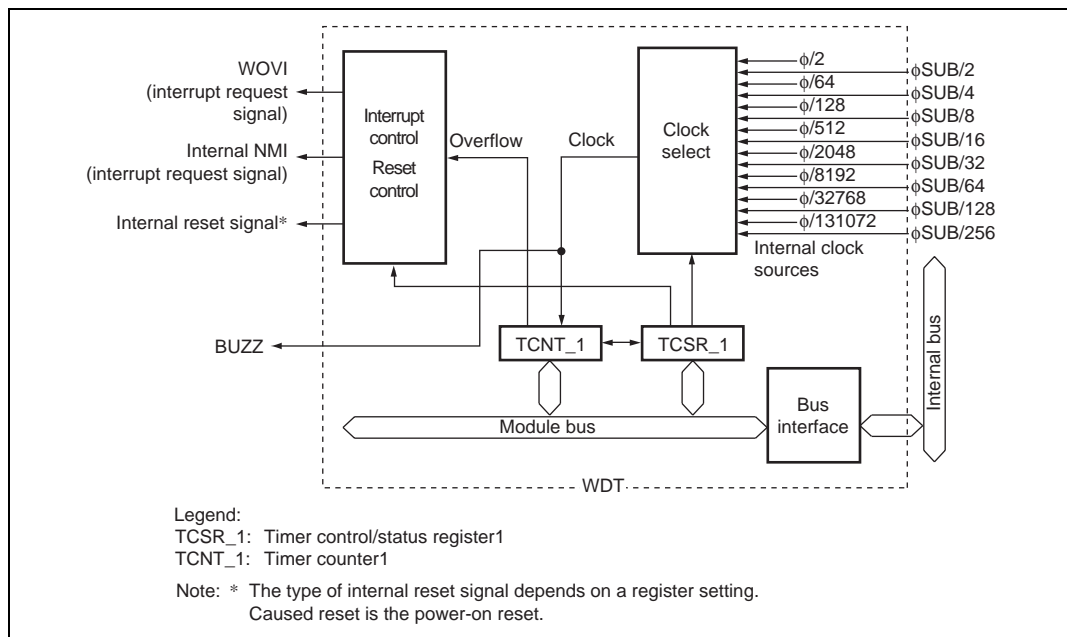

Figure 13.1 Block Diagram of WDT_1 (2)
The block diagram of the WDT is shown in figure 13.1.
2. When a sub-clock is operating in power-down mode, φ will be φ_{SUB}.**Figure 13.1 Block Diagram of WDT_0 (1)**